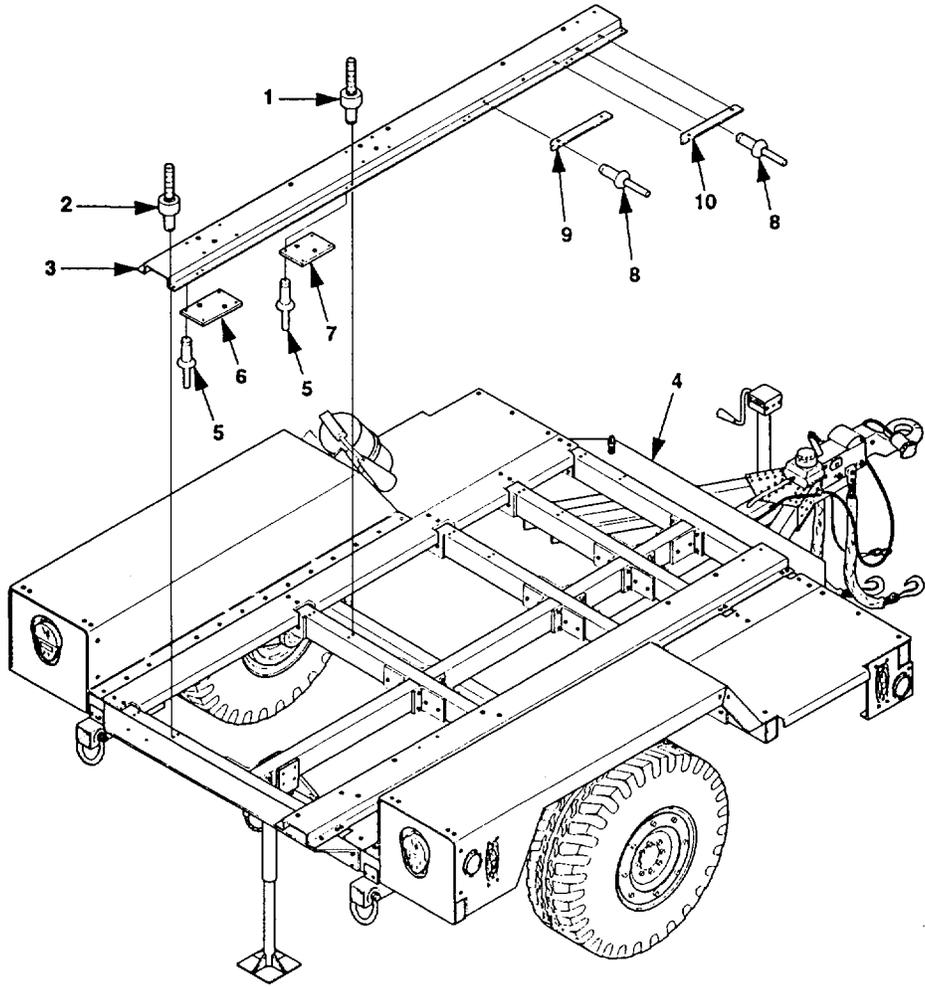

Figure 5-25. PU-797A and AN/MJQ-35A Generator Mounting Rail Replacement.
~~Remove rivets (1 and 2, figure 5-25) and mounting rail (3) from trailer chassis (4).~~